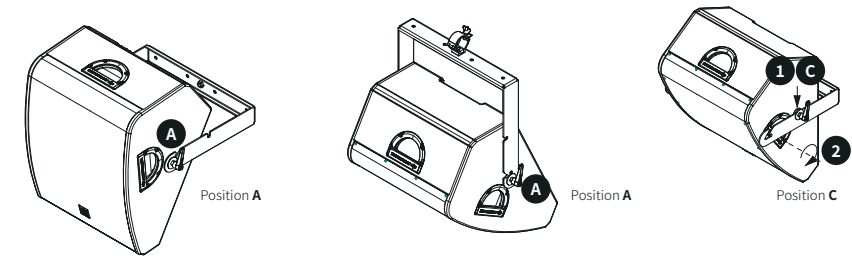

Figure 7. Different aiming angles for wall- and truss-mount installation.
10. If you want to be very close to the wall and have **SMX 12** pointing downwards, you can use the notch position **C** on the U-bracket. See figure 7.